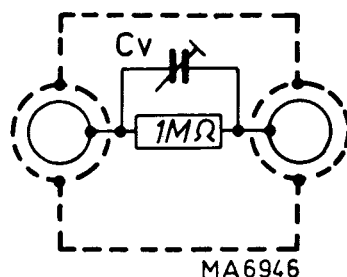

Fig. 13. Input RC standardizer
- To equalize the input capacitance in all positions of the  $Y_A$  ( $Y_B$ ) AMPLITUDE switch 805a (805b), an input RC standardizer is connected in series with  $Y_A$  ( $Y_B$ ) input socket 853 (854). The input RC standardizer consists of the parallel circuit of a  $1\text{ M}\Omega$  resistor and a 3-60 pF trimmer (Fig. 13) and is adjusted as indicated in the following table.
- Connect a square-wave generator (rise time 100 ns, internal resistance  $< 1\text{ k}\Omega$ ) to  $Y_A$  ( $Y_B$ ) input socket 853 (854). Adjust amplitude and frequency in accordance with the following table.